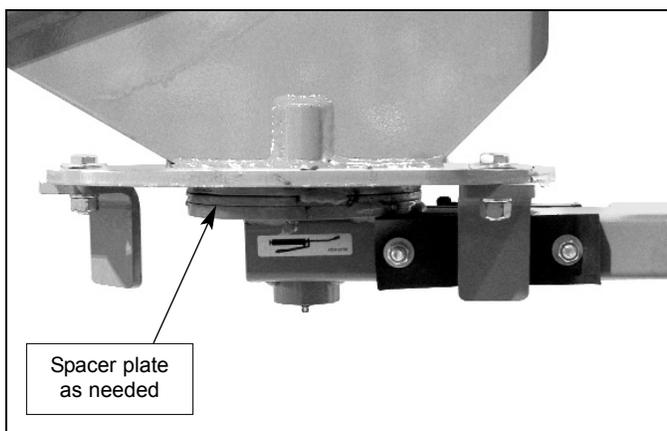

Fig. 8
- 2.4 Apply grease on the pivot and install the side arm supports then remove the winch. - *fig. 8*.